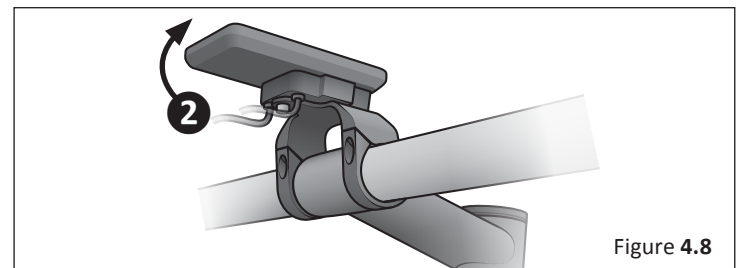

Figure 4.8
- 2 Adjust the angle of the display so it can be easily viewed while riding. **Figure 4.8**